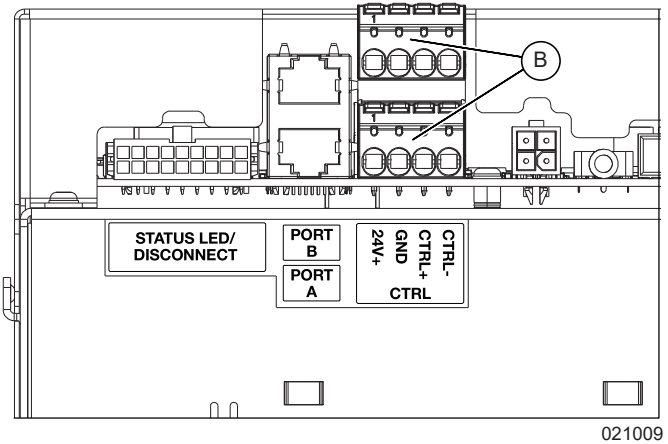

Figure 5-3. Battery control circuit terminal sets
- See Figure 5-3. Route another length of the same cable from the second set of control circuit terminals at the inverter and terminate at one of the two control circuit terminal sets (B) at the BMU. Maintain the same color pattern.